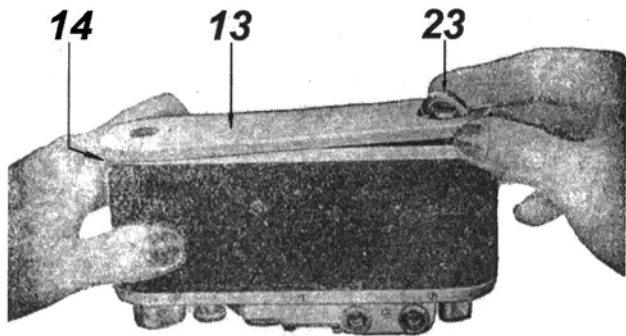

Fig. 2
**23. Baseplate Locking Key** (see fig 2)).
Take the camera as shown in fig. 2. Lift the key of the lock 23 and twist it counter-clockwise by half a turn. The arrow on the key will then point to «ОТКРЫТО» = "opened"